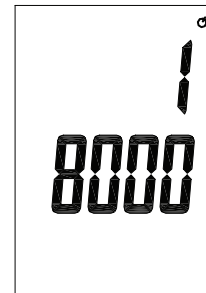

Fig. 7 Screen shows 18,000 readings left in memory.
1. Press **Power on/off** button to turn the unit on. The first value immediately shown is the number of data logging sample points remaining. (Fig. 7)
4. **Note:** A maximum of 18,000 sample points is available (Fig. 7). As you log temperature readings, this value will be lower each time you turn the meter. When the memory is full (with 0 sample points remaining), the first value shown will be "FULL" rather than a number. Or if you try to record, the REC icon will flash five times and disappear. At this point, you are no longer able to record until the memory is cleared. (See "Changing Setup Options", "Clear Memory Operation" on pages 11-12.)